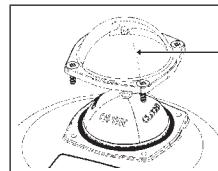

Fig. 11: Removing glass hood
- Remove glass hood of the position indicator 1 including the sealing ring by loosening the four fastening screws and remove the glass hood (see "Fig. 11").